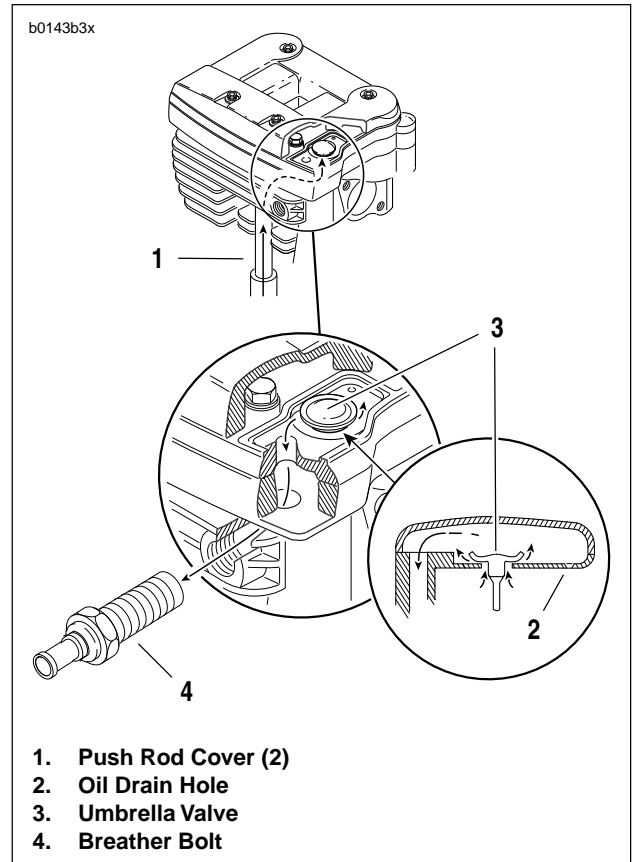

Figure 3-49. Crankcase Breathing System, Typical Cylinder
See Figure 3-49. On piston downstroke, a mixture of crankcase air and oil mist is vented up the push rod covers (1) through an umbrella valve (3) in each middle rocker box section.